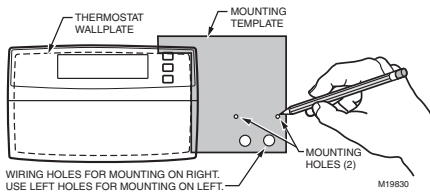

Fig. 2. Positioning mounting template.
A mounting template is included for mounting the humidity control next to your thermostat. See Fig. 2. However, the humidity control can be mounted in any other convenient location in the living area or equipment room.
1. Hold the mounting template (included) next to your thermostat. Select the mounting side for the humidity control. The template is reversible for mounting on either the left or right side of the humidity control. See Fig. 2.